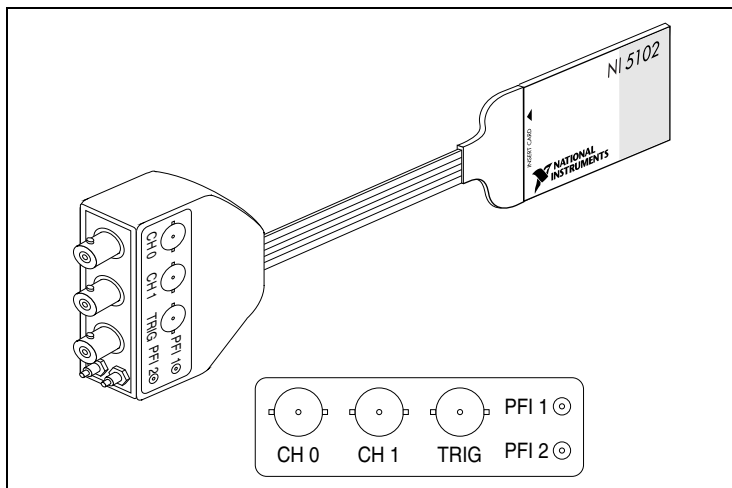

Figure 11. NI PCMCIA-5102 Front Panel Connectors
- ◆ **NI PCMCIA-5102 Front Panel**—Use the cable assembly provided with your digitizer for the connections on the NI PCMCIA-5102, as shown in Figure 11.